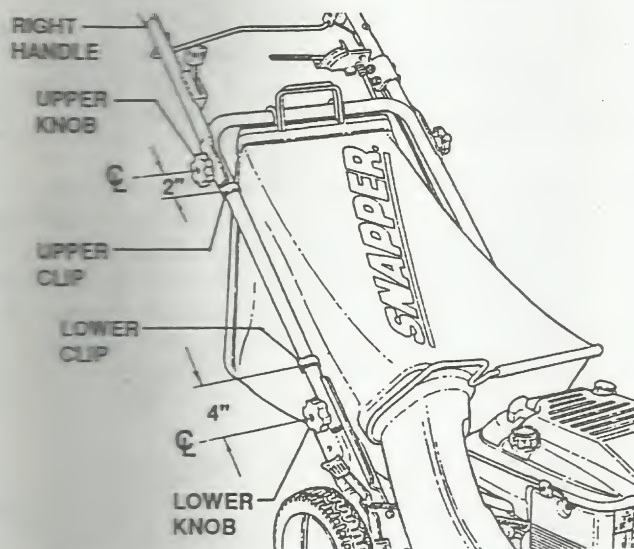

FIGURE 4.5
4. If the wheel drive control fails to return quickly to the "OFF" position when released, check for binding at the cable holdings located on the side of the right handle. The upper clip should be located 2" below the upper knob; the lower clip should be 4" above the lower knob. The cable should slide freely with the clips installed at these locations. See Figure 4.5.